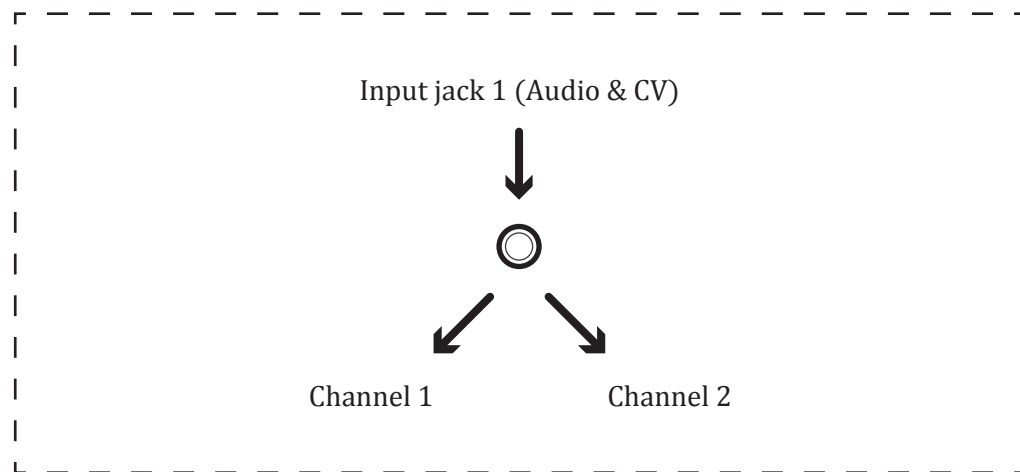

FIG.3: When using only CV 1 input (Normalized)
CV input 1 is normalized (internally connected) to CV 2. "Normalization" means that if you are not using CV 2, the input to CV 1 will be automatically duplicated to CV 2. In other words, you can control two CV from one cable input (See FIG. 3). This feature economizes the need to duplicate signals using external multiple modules. This normalization function works similarly for ⑥ "IN 1" input. When the plug is not plugged in ⑦ "IN 2", the input from "IN 1" is copied to channel 2.